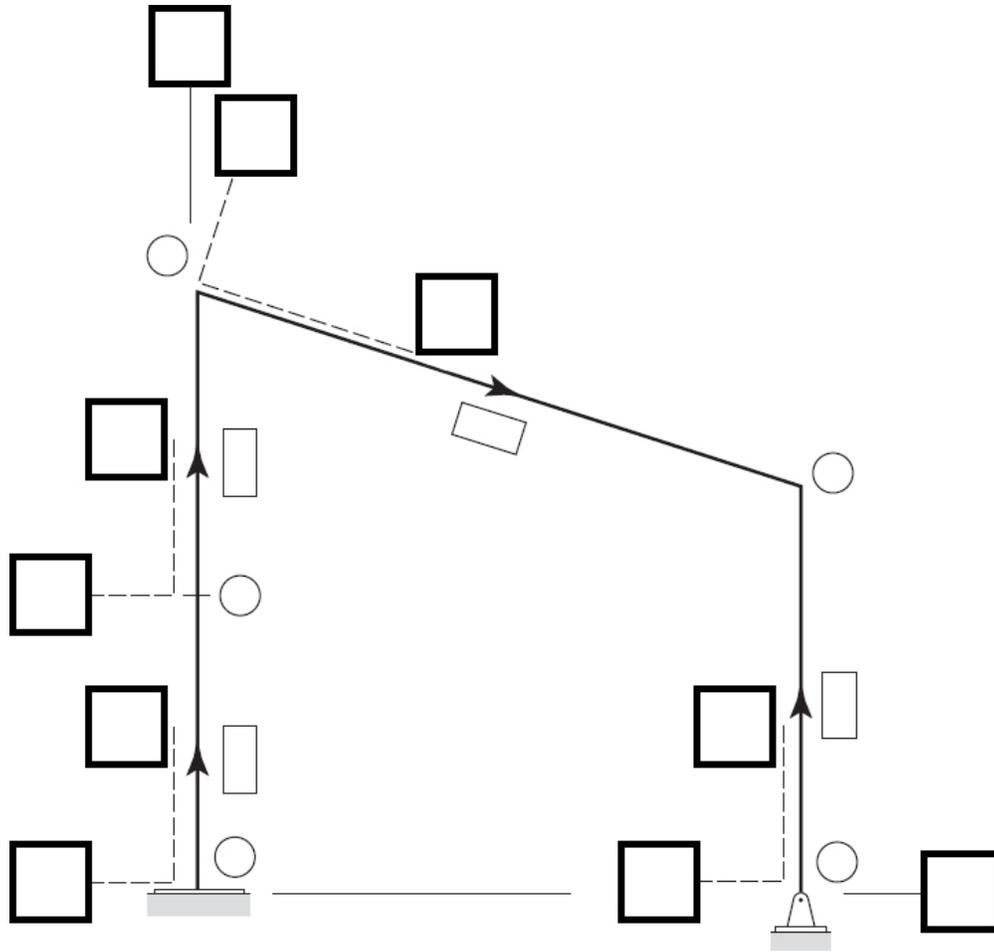

Figure 2. Discretized frame model identifying the two coordinate systems.
- 4) Refer to Figure 2, for an example frame structure of _____.